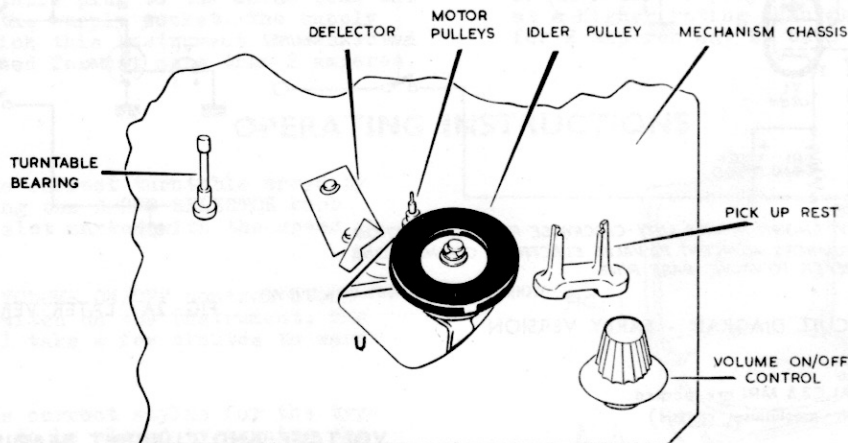

FIG. 4
5. Pass the cord through the eye, and then thread the small sleeve onto the cord, pass the cord through the hole at point "Y" doubling back through the sleeve again. Hold the cord with a pair of pliers and adjust the length of cord so that the edge of the idler pulley wheel is  $1/16$ " from the edge of the base plate cut-out marked "U" (See Fig.4). Solder the cord into position.